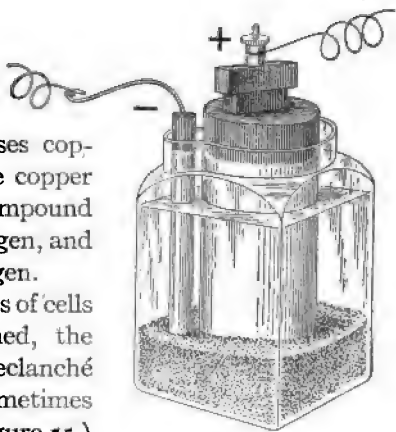

FIG. 55. — Leclanché cell.
*Classes of cells.* Two types of cells are commonly distinguished, the wet and the dry. The Leclanché cell is a type of wet cell sometimes used for door bells. (See figure 55.) Carbon and zinc are used and placed in a solution of sal ammoniac. The carbon is placed in a porous cup and surrounded with a compound which oxidizes the hydrogen.